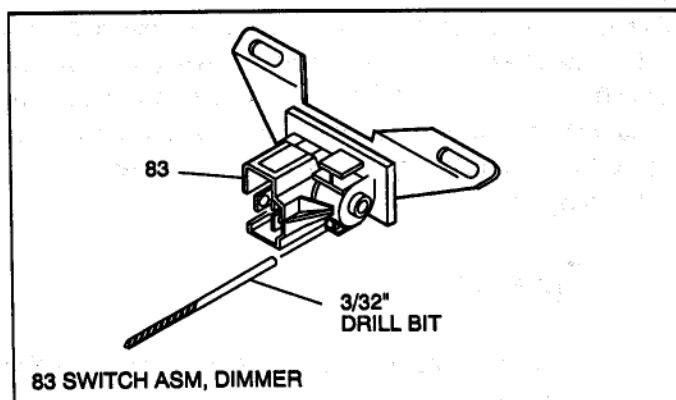

Figure 31 - Adjusting Dimmer Switch
- Dimmer switch (83). (See Figure 31)
- B. Position switch on column and push against dimmer switch rod (77) to remove all lash.